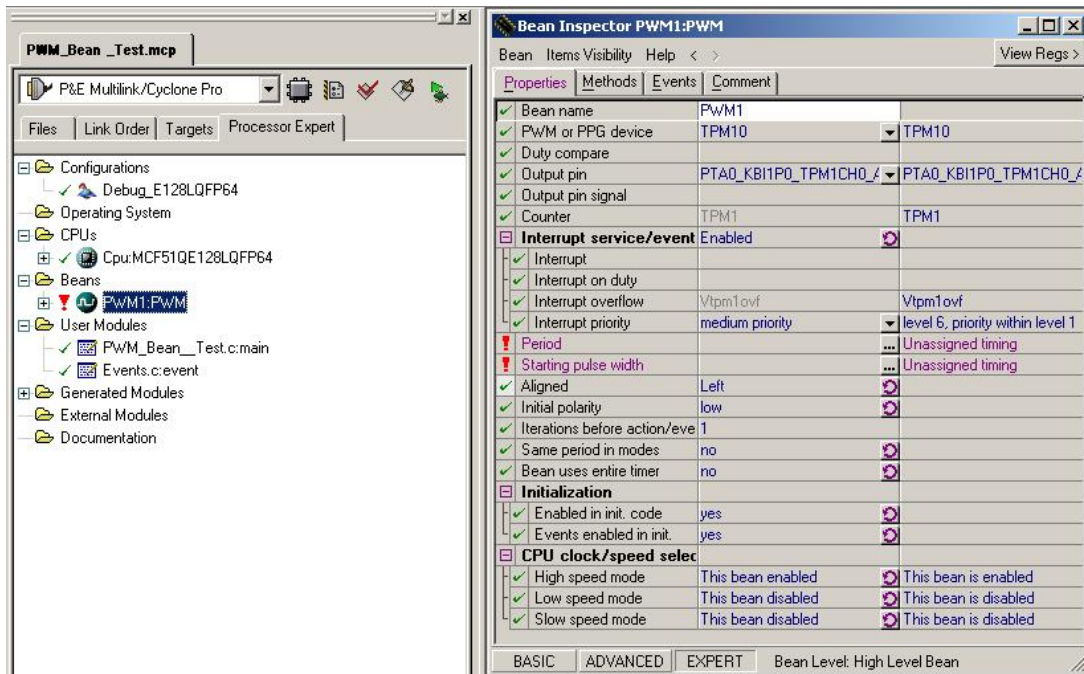

Figure 36. Bean Inspector Window - PWM Bean
1. The PWM bean is displayed in the Processor Expert tab on the left panel, in the Beans folder (Figure 36).